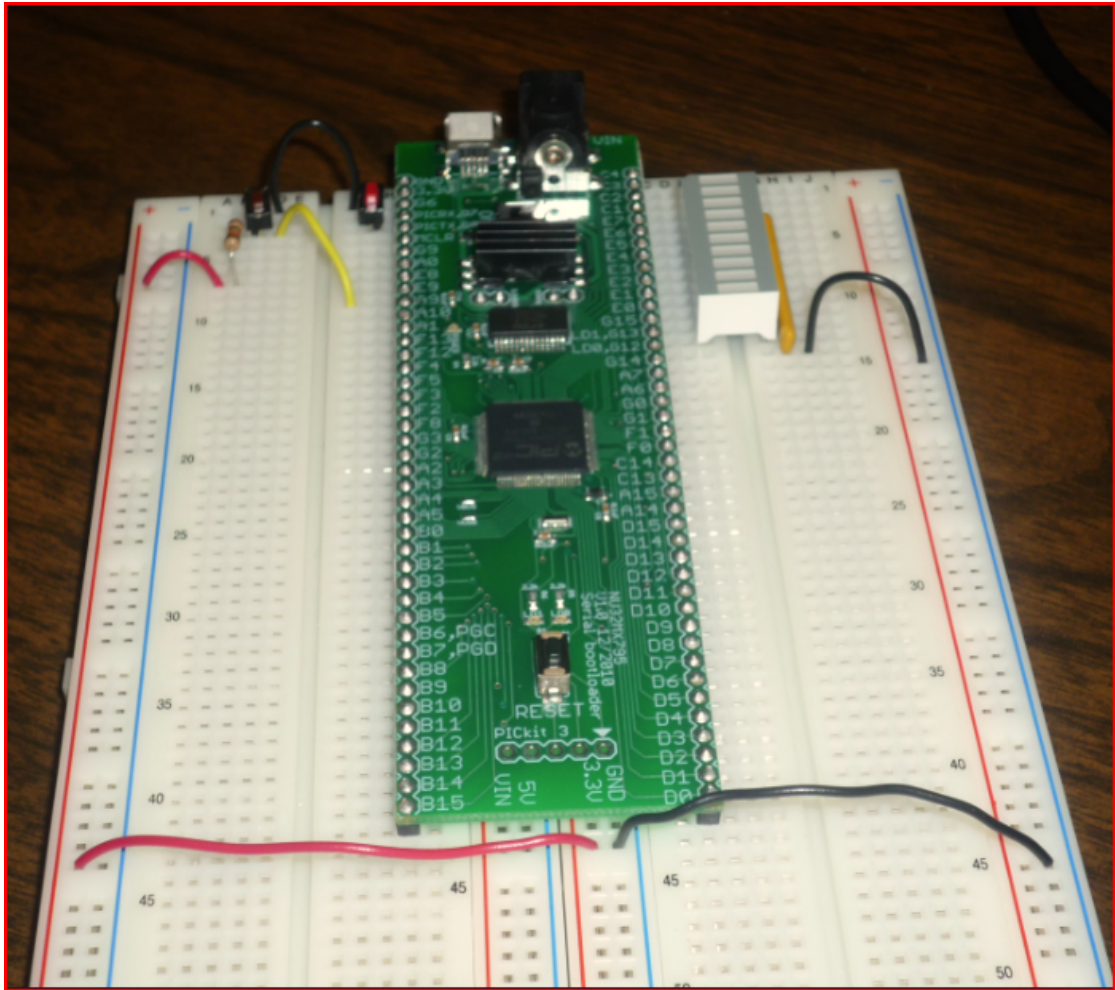

Figure 1: Final Layout of circuit
- Your final circuit should resemble Figure 1